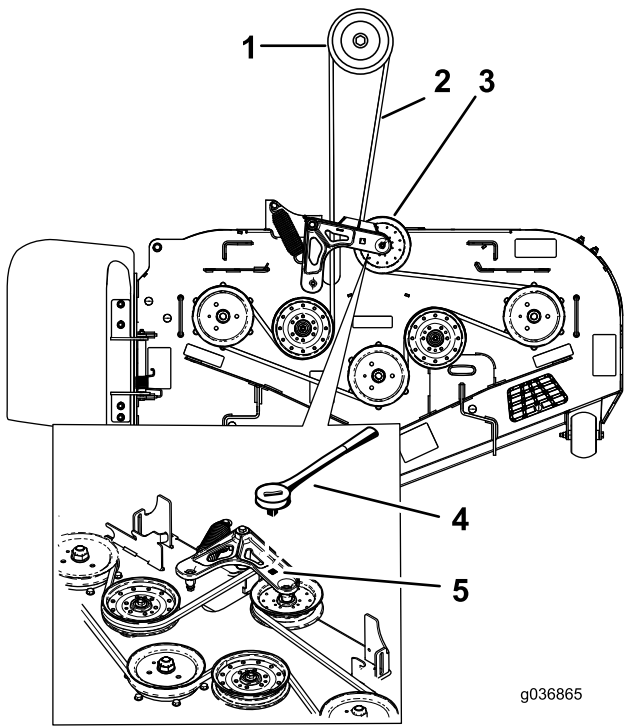

**Figure 85**
**Note:** For 1500 and 2000 Series mower decks, use the spring removal tool (Toro Part No. 92-5771) to remove the spring from the mower-deck post (Figure 85).